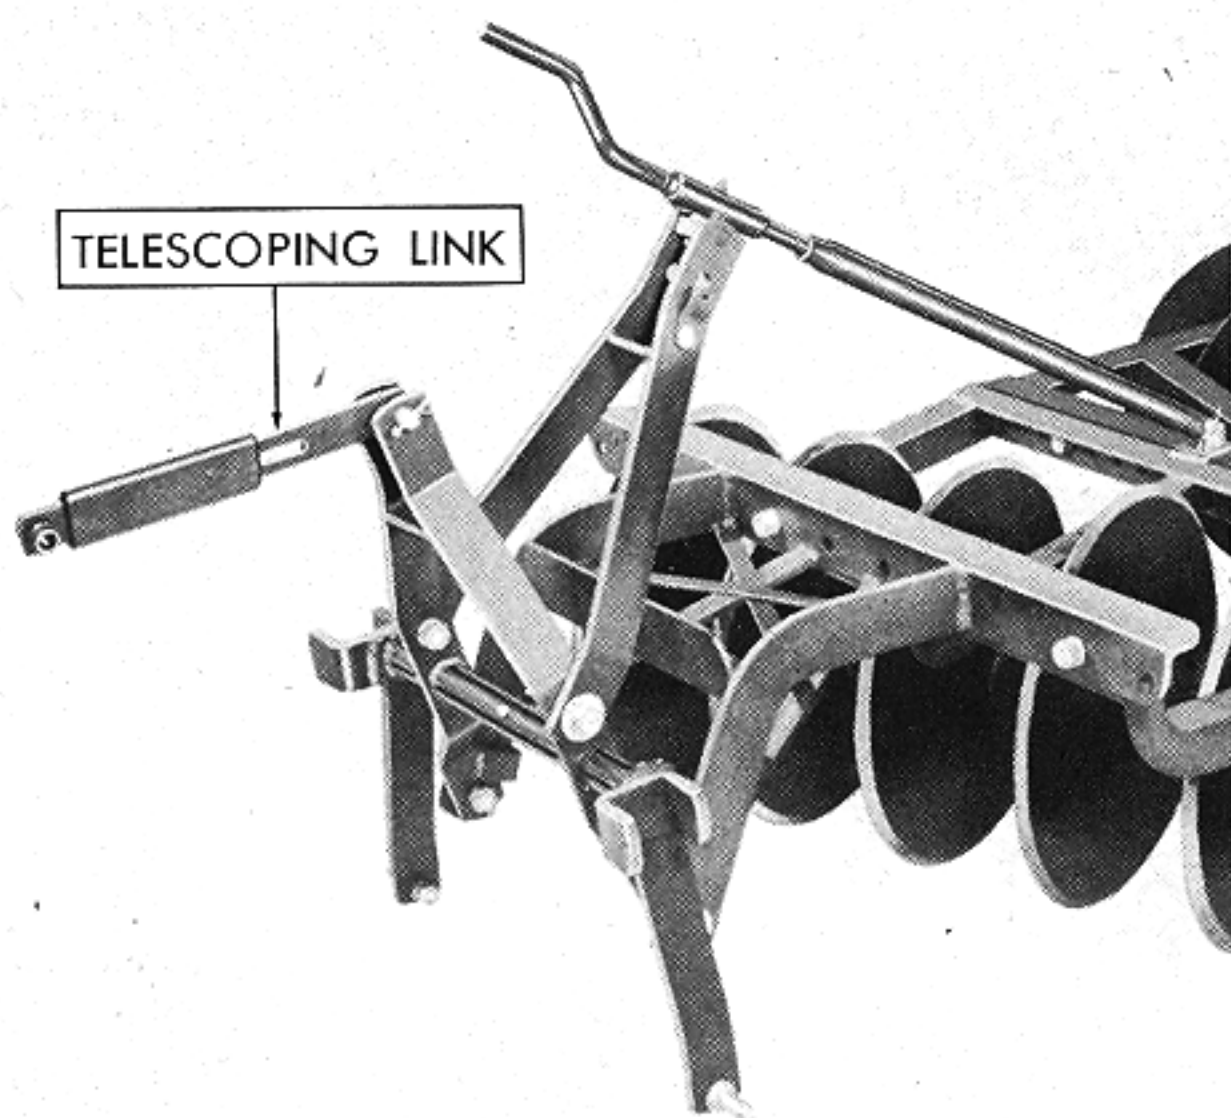

Figure 10
8. Attach the telescoping top link to the top of the inner "A" frame with pin and cotter pin as shown in Figure 10.